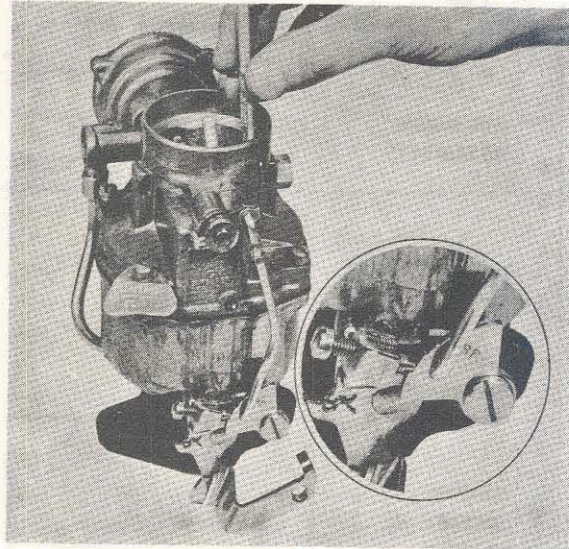

FIGURE 3
1. With the stat cover properly indexed (so that the scribed index mark on the cover is in line with the long cast mark on the choke housing) turn the idle screw in until it contacts the second step of the fast idle cam against the shoulder of the first step. (Figure 3).